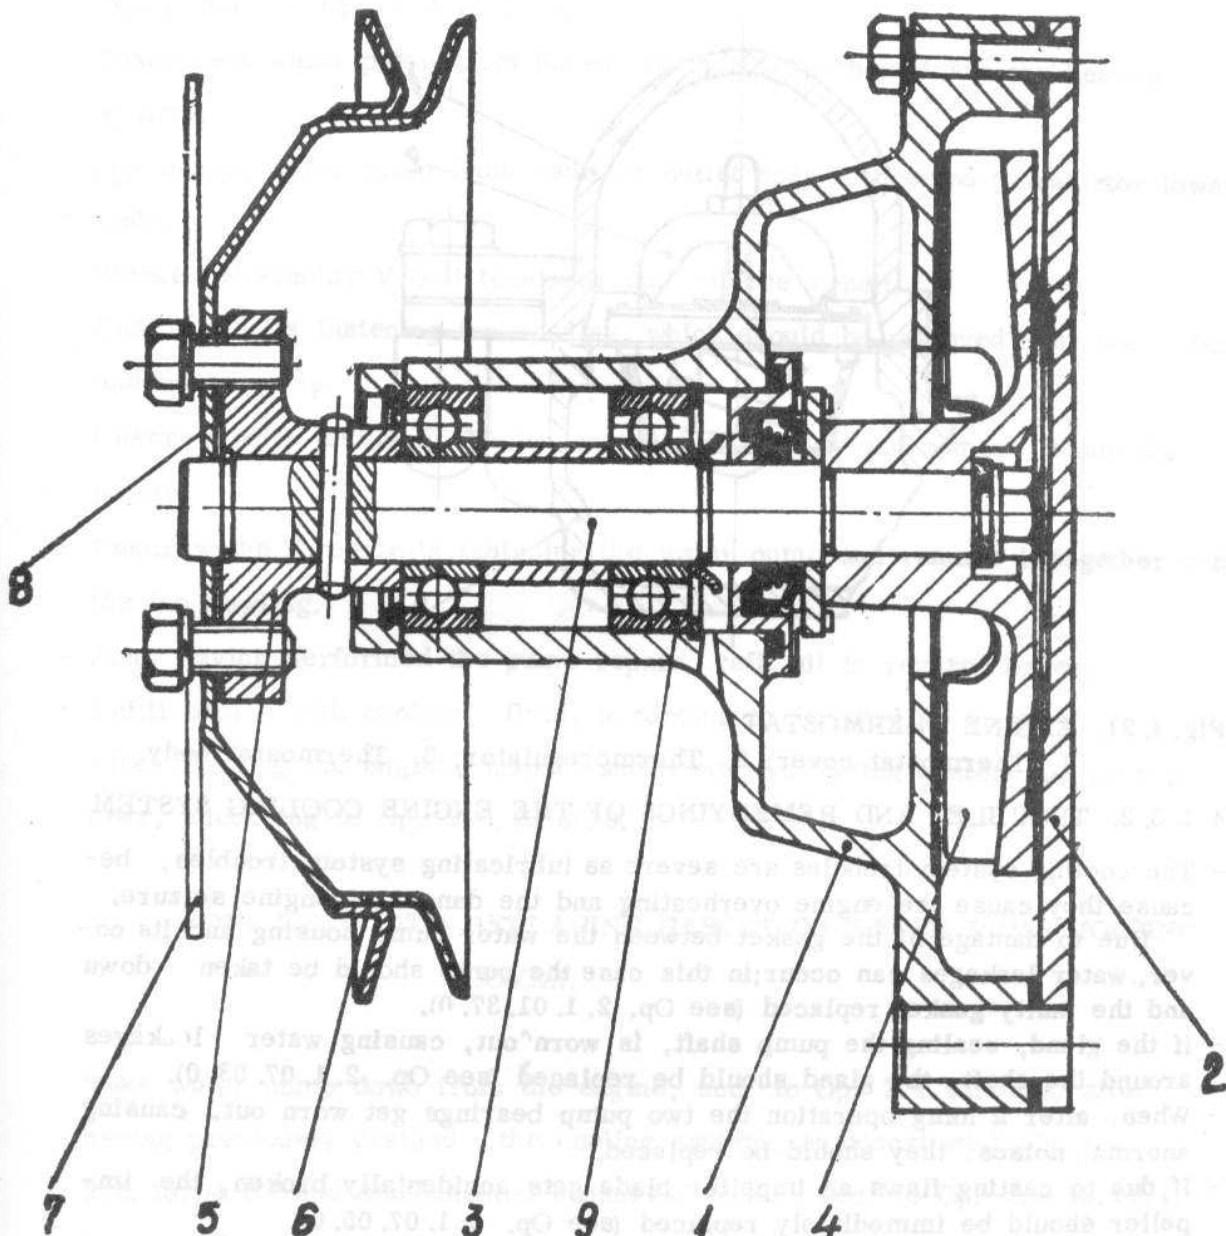

Fig. 4.20. WATER PUMP
The pump body is an aluminium casting. Its shaft is fitted with two shielded, selflubricating ball bearings (9) - see fig. 4.20 -
- Remove snap ring - see fig. 4.20 -, by the agency of nose pliers and draw out annular shim from the shaft flange end.